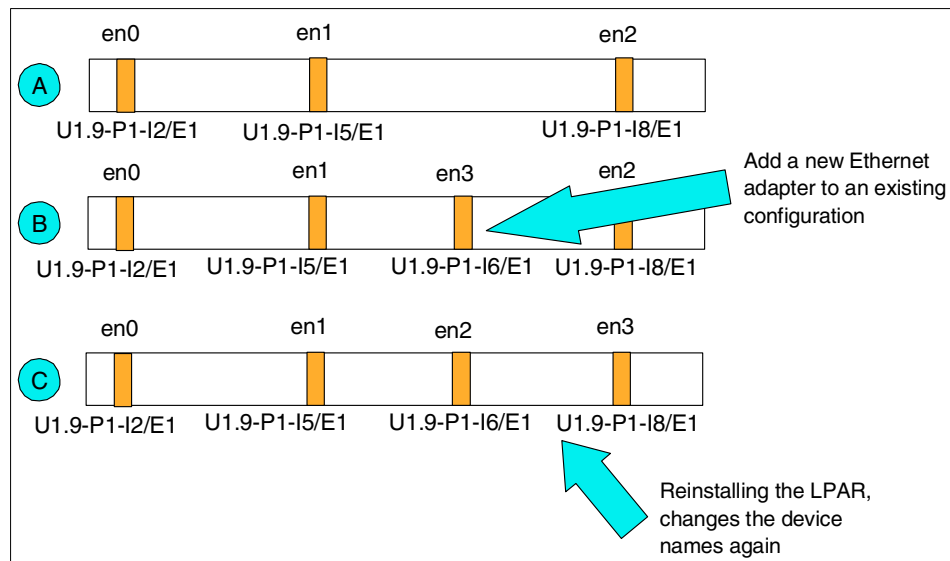

Figure D-20 Physical location codes and logical AIX device names
- ▶ In Figure D-20, (A) shows one LPAR with three configured Ethernet adapters. You can see the AIX device name (enX) and its corresponding hardware location (U1.X-PX-IX/E1).
- ▶ (B) shows the scenario after adding a new adapter. The device name gets the next free logical name, which is en3.
- ▶ (C) shows the AIX device names after reinstalling the LPAR. As you can see, the ordering of the device names is changed. Now PSSP automatically reassigns the logical names, as shown in (B), using hardware physical location codes defined in the System Data Repository (SDR).